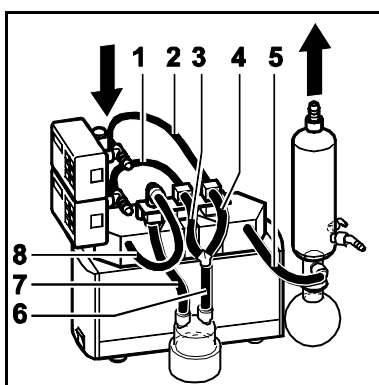

Fig. 18: Tubing system SCC
8	Tubes (see fig. 18) <ul style="list-style-type: none"> ▪ Resistant to the medium employed ▪ Inside diameter 10 mm ▪ Length: (1) approx. 320 mm, (2) approx. 260 mm, (3,4) approx. 120 mm, (5) approx. 220 mm, (6) approx. 135 mm, (7) approx. 175 mm, (8) approx. 350 mm
5. Lay hoses for system (see fig. 18).